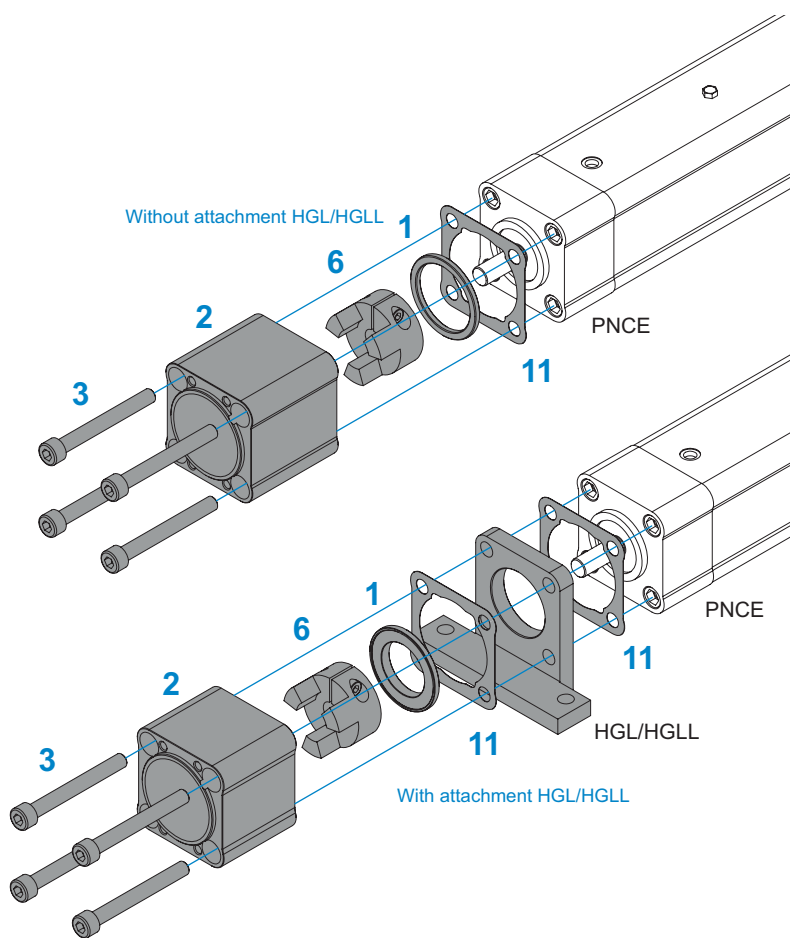

Figure 16: Step 1, 2 and 3.
STEP 2: Place the coupling hub **1 6** on the drive journal of the PNCE. Ensure that the coupling hub **1 6** and the drive journal of the PNCE are correctly aligned, see figure 16. Tighten the coupling hub screw **1 6** with the coupling tightening torque.